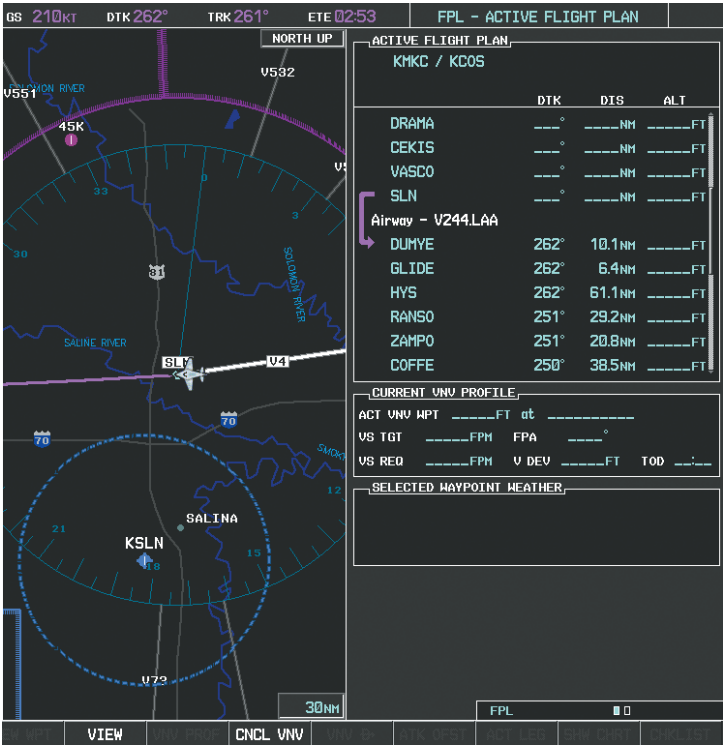

Figure 5-119 V244 Now Active Leg
9) As seen in Figure 5-119, V244 is now the active flight plan leg.